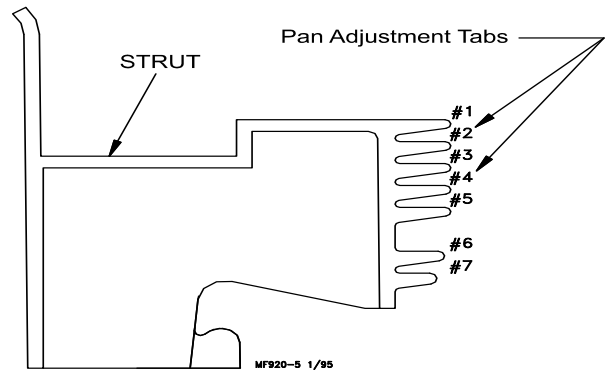

Figure 27. Adjustment Settings
1. Broilers: Position the lip of the feeder pan in the #2 tab of two struts, see **figure 27**.
Turkeys: Position the lip of the feeder pan in the #4 tab of two struts, see **figure 27**.